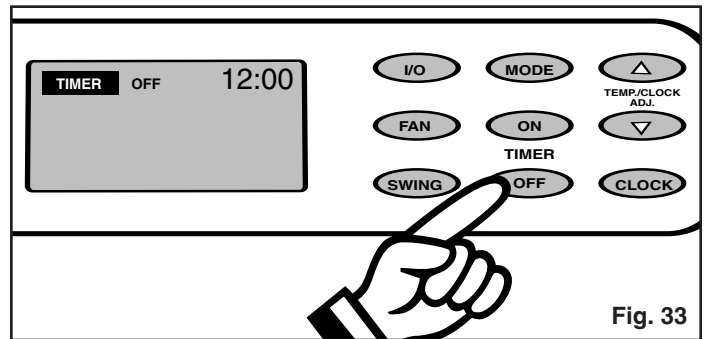
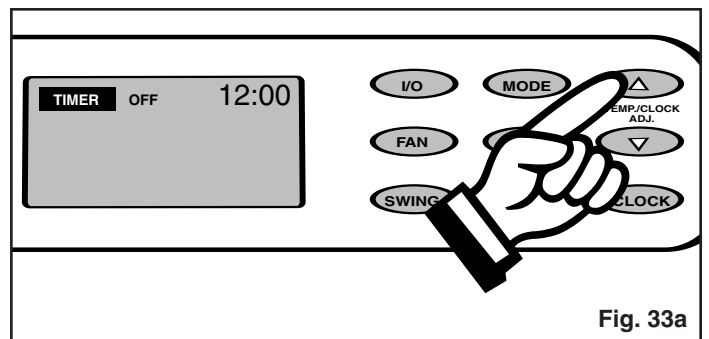

Fig. 33
Fig. 33a
- 2) Press the **TIMER-OFF** key pad to initiate the **AUTO-OFF** time sequence. *Fig. 33*. The display window will indicate **TIMER-OFF** and the word **OFF** will flash for 5 seconds. Press the Δ or ∇ key pad to select the desired **AUTO-OFF** time. *Fig. 33a*.
- 2) Press the **AUTO-OFF** key pad to initiate the **AUTO-OFF** time sequence. (Fig. 33). The display window will indicate **TIMER-OFF** and the word **OFF** will flash for 5 seconds. Press the **△** or **▽** key pad to select the desired **AUTO-OFF** time. (Fig. 32a).